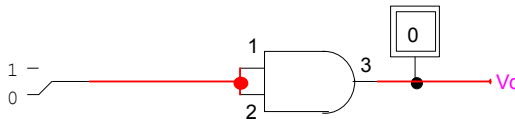

Fig.2
- b. Connect the circuit of Fig.2 Using LogicWorks. Which rule does this circuit illustrate?